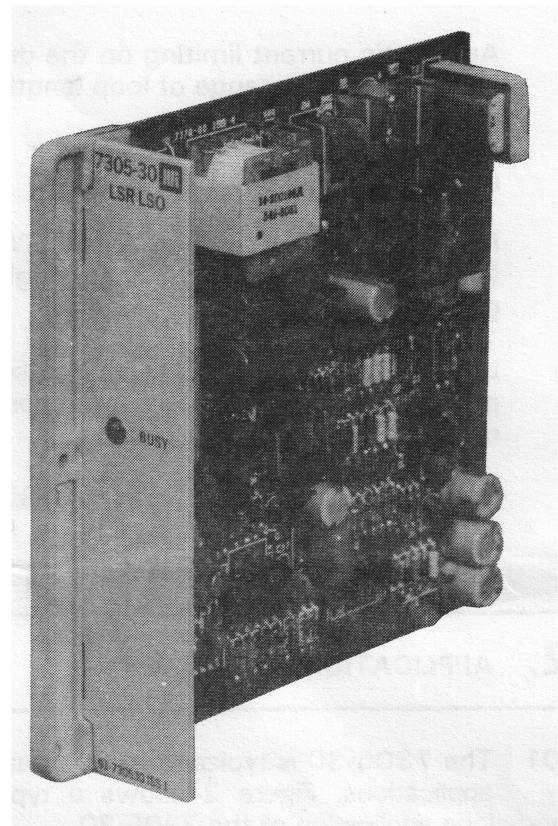

Figure 1. 7305-30 2-Wire Loop Signaling Repeater, Loop Start Only
1.01 This Section provides a circuit description, installation, and basic testing information for the Wescom® 7305-30 2-Wire Loop Signaling Repeater, Loop Start Only (Issue 1), shown in Figure 1.